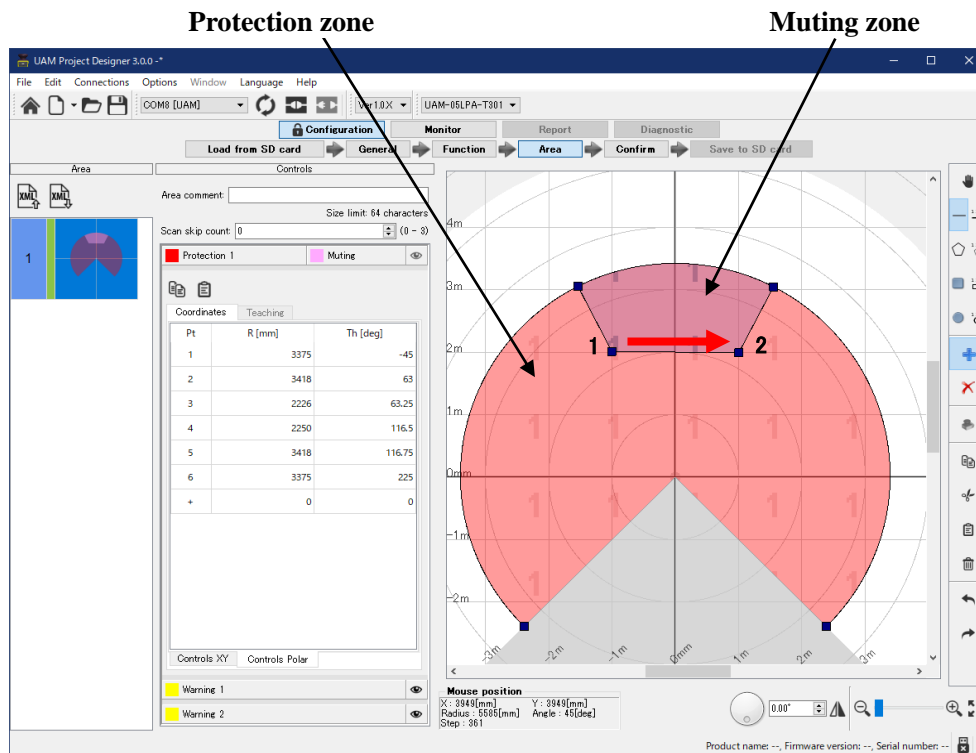

Figure 7-51 Muting zone configuration example 1
- Figure 7-51 and 7-52 shows an example of the muting zone configuration. Region in pink represents the muting zone.